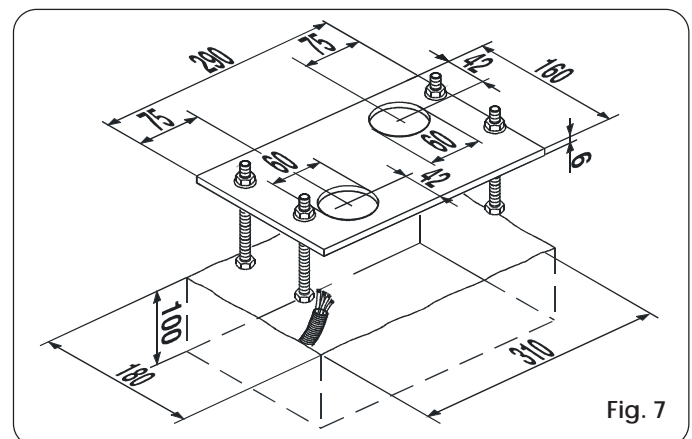

Fig. 7
3) Prepare a foundation plinth as in Fig.7 and enclose the foundation plate in a wall providing one or more sheaths for routing electric cables. Using a spirit level, check if the plate is perfectly level. Allow the cement to set.